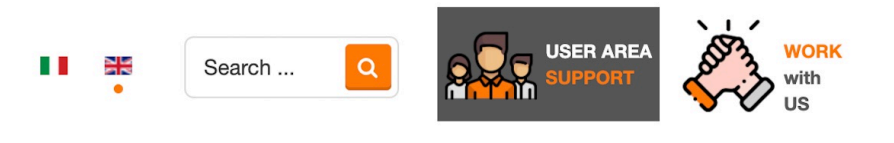

Figure 1.4: User Area button
Step 2: Click on “User Area - Support” top-right button (Figure 1.4)